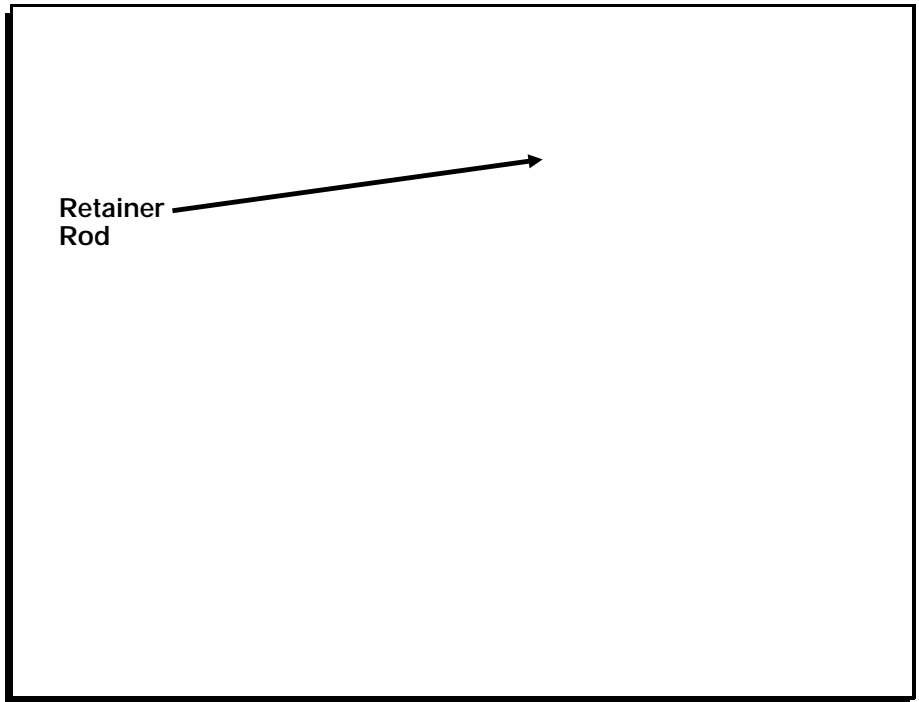

Figure 10
2. Find the two holes in the floor toward the back of the cabinet. Insert a retainer rod's short end (end without the threads) into one of the two holes as shown. Tilt the long end of the retainer rod up until it slides down through the hole. Repeat the process with the other retainer rod in the other hole. (Figure 10.)